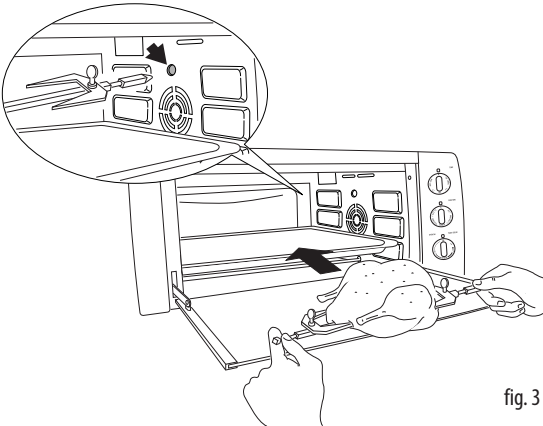

fig. 3
- Insert the bake pan (H) in the guide 3 and the spit (I) in the turnspit mount (O) (fig. 3).